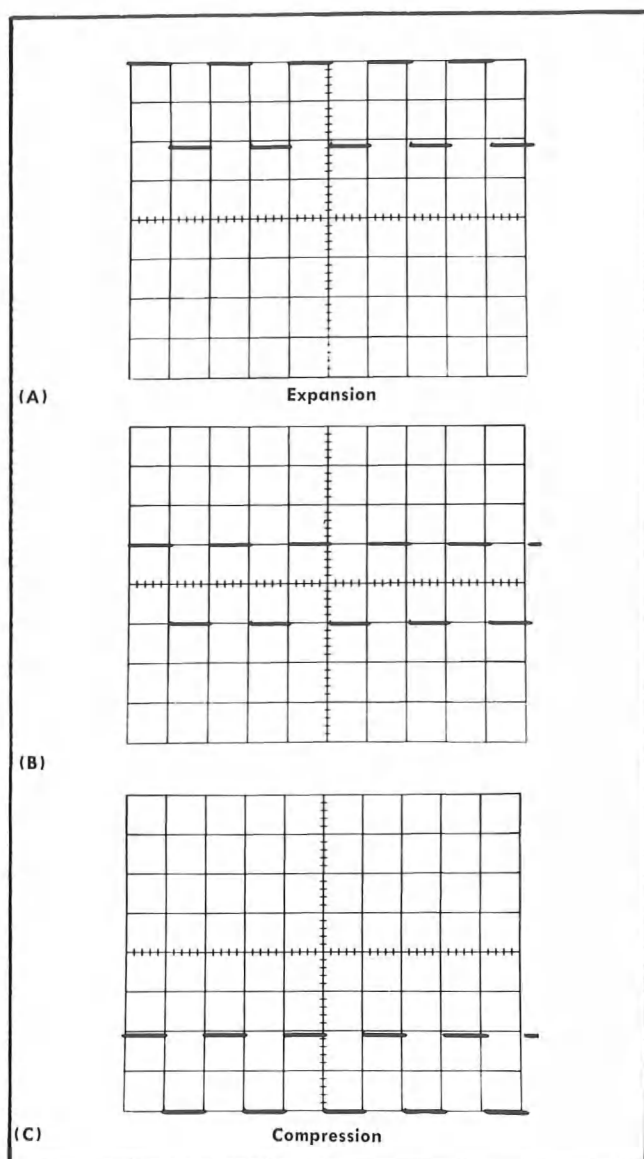

Fig. 5-16. Typical CRT display showing acceptable compression and expansion. (A) Expansion, (B) correct deflection at center of graticule, (C) compression.
e. CHECK—Compression or expansion not to exceed 0.15 division (see Fig. 5-16).
g. CHECK—Compression or expansion not to exceed 0.15 division (see Fig. 5-16).
l. CHECK—Compression or expansion not to exceed 0.15 division (see Fig. 5-16).
n. CHECK—Compression or expansion not to exceed 0.15 division (see Fig. 5-16).